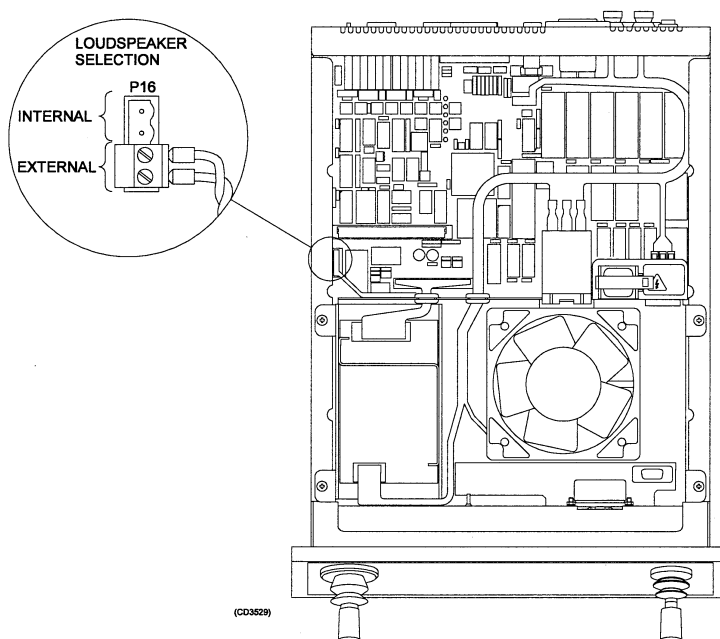

Figure 2 Loudspeaker selection
- Refer to figure 2, and move the loudspeaker plug P16 from internal to external position.